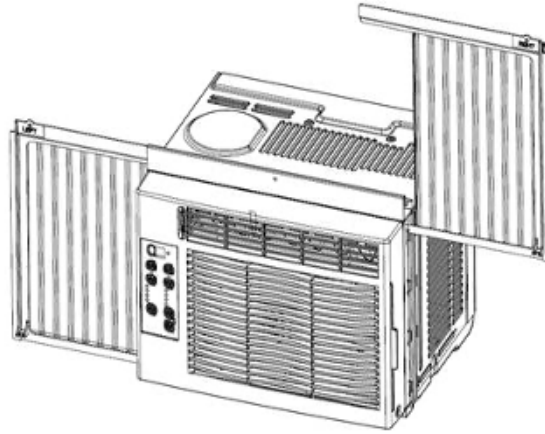

Figure 3
- c. Once the panel has been installed on the side of the cabinet, make sure it sits securely inside the frame channel by making slight adjustments. Slide the top and bottom ends of the frame into the top and bottom rails of the cabinet. See Figure 3.